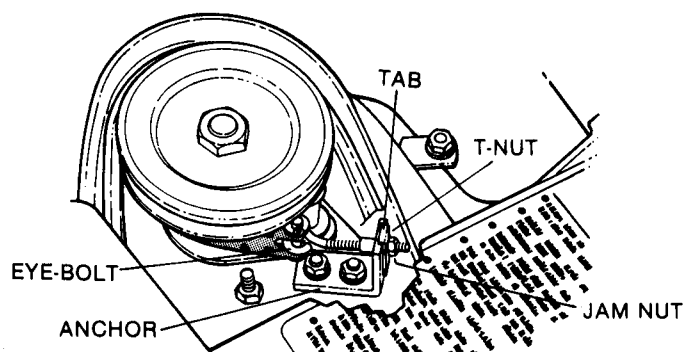

FIG. 11 - BLADE BRAKE ADJUSTMENT
As the brake band wears, the BLADE lever will gradually stop further rearward in the slot of the BELT COVER. BRAKE adjustment is required when the lever stops 1/2" from the top of the belt cover. The adjusting point is shown in FIG. 11. With the engine stopped, the adjustment is made as follows:
STEP 2: While holding the BLADE lever firmly in the rearward position, loosen the jam-nut on the end of the eye bolt (refer to FIG. 11).